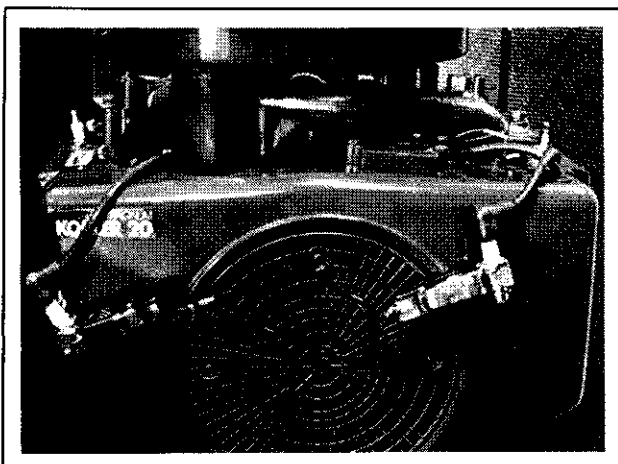

Figure 8-2. Ignition System Tester.
3. Check ignition module using test plugs (refer to the "Special Tools" section and Figure 8-2). <ul style="list-style-type: none"> <li>a. Remove the high-tension leads from the engine spark plugs, and connect them to the test plugs.</li> </ul> <p>NOTE: To maintain engine speeds normally obtained during cranking, do not remove the engine spark plugs.</p> <ul style="list-style-type: none"> <li>b. Make sure the engine ignition switch (kill switch) and/or key switch are in the "run" position.</li> <li>c. Crank the engine and observe the test plugs. Visible and audible sparks should be produced.</li> </ul>	If visible and audible sparks ARE produced, the ignition module is OK.  If visible and audible sparks ARE NOT produced: <ul style="list-style-type: none"> <li>a. Make sure engine ignition switch and/or key switch are in the "run" position.</li> <li>b. Check wires and terminals of ignition module and other components for accidental grounding and/or damaged insulation.</li> <li>c. If wires and terminals are OK, the ignition module is probably faulty and should be replaced. Test module further using an ohmmeter (Test 4).</li> </ul>